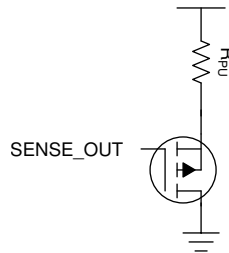

图 8-7. Additional Components for the PG Pin to be Pulled Up to Another Rail
Because the power-good (PG) pin is pulled up internally to the output rail, this pin cannot be pulled up to any voltage or wire AND'd like a typical open-drain PG output can be. If this signal must be pulled up to another logic level then an external circuit can be implemented using a PMOS transistor and a pullup resistor. Implementing the circuit shown in 图 8-7 allows the outputs to be pulled up to any logic rail. If a PMOS transistor is used make sure to pick a transistor with a low threshold voltage as this will determine the output low voltage. this can also be done with a NMOS transistor, but it inverts the logic. This implementation also allows the outputs to be AND'd together like the traditional power-good pins.